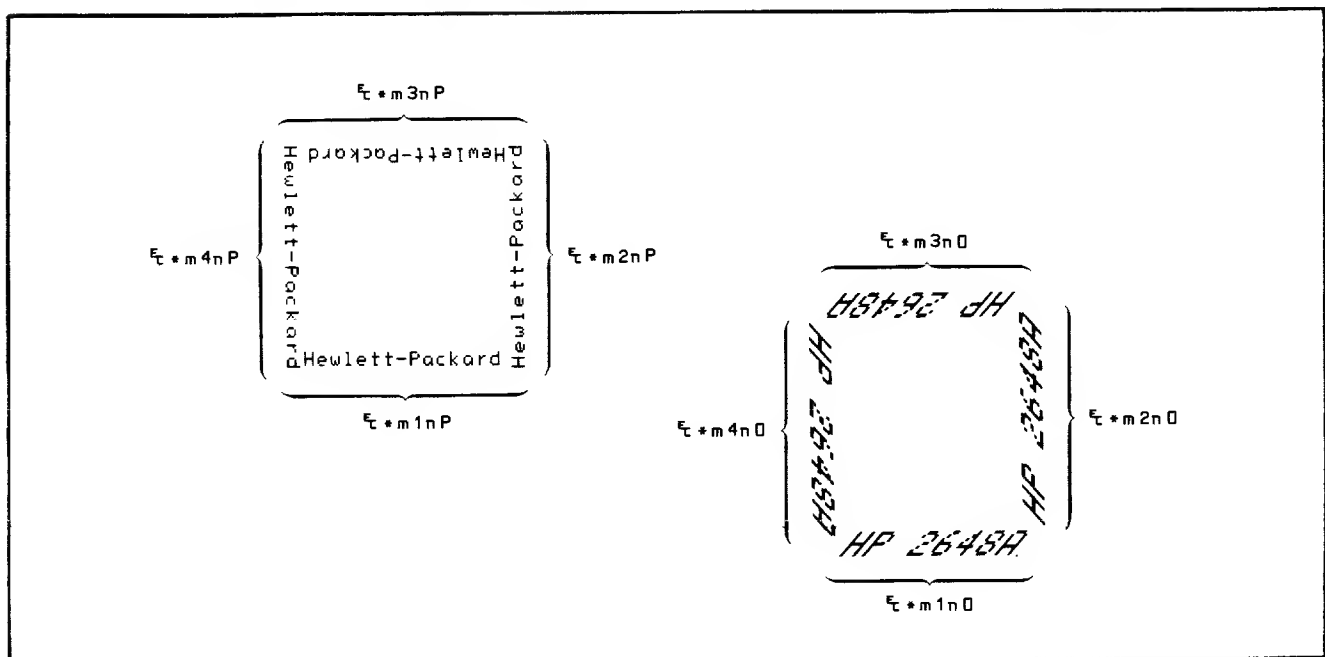

Figure 10-12. Graphics Text Direction
**TEXT DIRECTION.** This command uses the ASCII characters 1 through 4 to specify the text orientation (see figure 10-12). This also changes the direction of line feed, carriage return, and backspace.